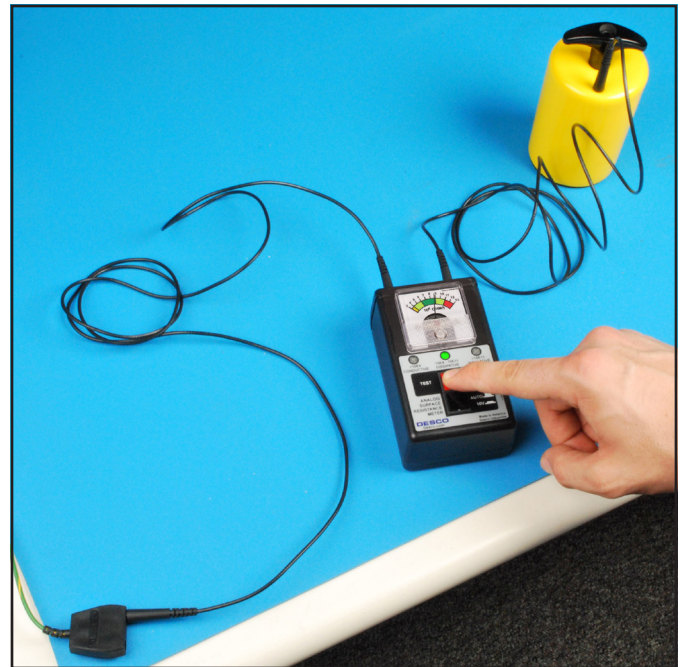

Figure 3. Using the test leads and one 5 pound electrode to measure RTG
5. Set the Test Voltage Button to AUTO. Press and hold the the TEST button until the measurement is displayed (see Figure 3).